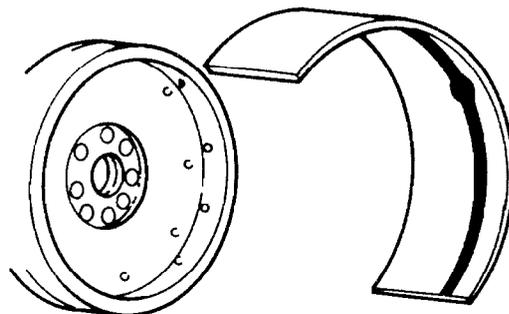

Figure 45 — Upper Main Bearing Shell — Installation
- i. Install a new set of appropriate size (undersize if necessary) crankshaft bearing shells into the correct cylinder block bearing saddle locations, commencing with number one location at the front of the cylinder block. The oil groove of the number seven bearing shell is not centralized, the wider part of the bearing shell must be installed toward the rear of the cylinder block (see Fig. 45), then check to ensure the bearing shell oil holes align with the cylinder block oil galleries.